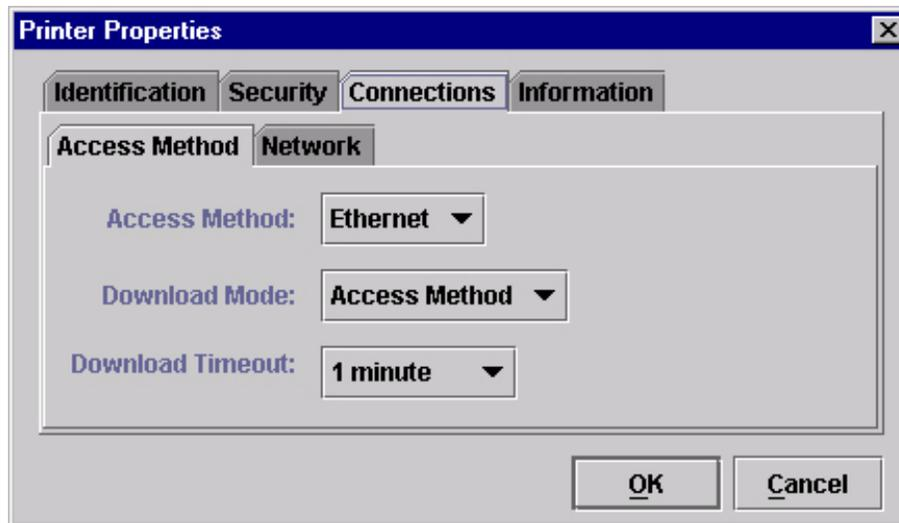

Figure 5. Connections: Connections – Access Method Tab
10. Click the **Access Method** tab. See Figure 5.